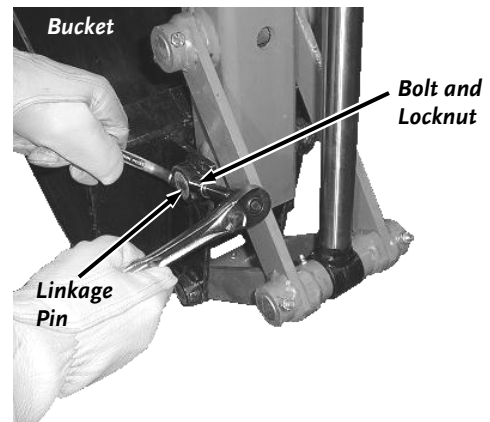

Figure 37
2. Remove the four Bolts and Locknuts from the Bucket Linkage Pins (*Figure 37*).